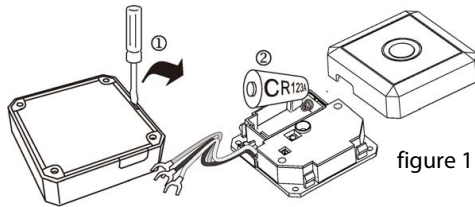

figure 1
1. Open the front cover using a small flat-head screw driver (see figure 1).